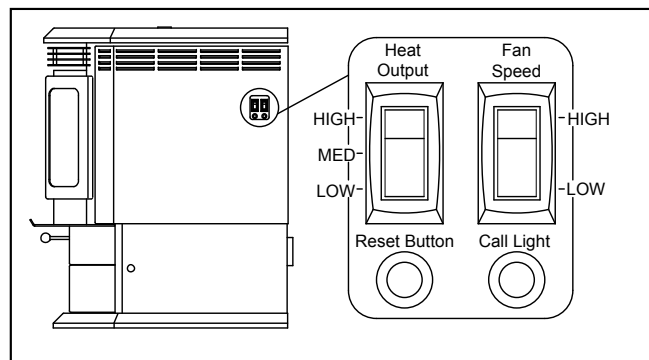

Figure 22.1
3. Occasionally the appliance may run out of fuel and shut itself down. When this happens, the red call light will be on. To restart it, fill the hopper and press the reset button. **(See Figure 22.1, page 22).** When you press the reset button the red call light will go out. Release the button and the light will come back on. You should see a fire shortly. If not, follow the instructions on **page 23**, of "Starting Your First Fire".